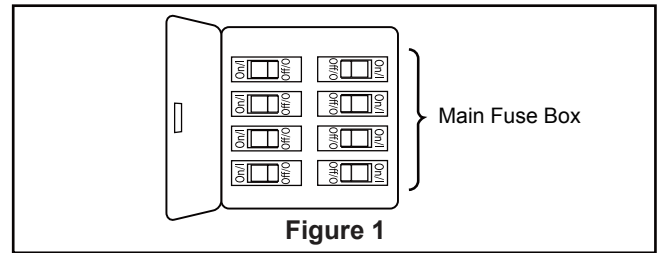

Figure 1
Your new ceiling fan will require a grounded electrical supply line of 120 volts AC, 60 HZ, 15 Amp Circuit. Electrical code requires use of a fan-rated outlet box to support the extra weight and motion associated with a ceiling fan. A fan-rated box will be labeled as such and typically supports up to a 70lb ceiling fan. Fan-Rated Outlet Boxes vary in ratings and design. Ensure the ratings of your ceiling fan outlet box meet the requirements for the ceiling fan being installed. Figure 1, Figure 2 and Figure 3 depicts different structural configurations that may be used for mounting the outlet box.
Low profile box (Figure 1)
1. Remove the hanger ball portion from the downrod/hanger ball assembly by loosening the set screw in the hanger ball until the ball falls freely down the downrod. Remove the pin from the downrod, then remove the hanger ball. Retain the pin and hanger ball for reinstallation in Step 6. (Figure 1)
To avoid possible fire or shock, be sure electricity is turned off at the main fuse box before hanging. (Figure 1)
- 1. To set the code on receiver unit, slide dip switches to the same positions as set on the remote control. (Figure 1)